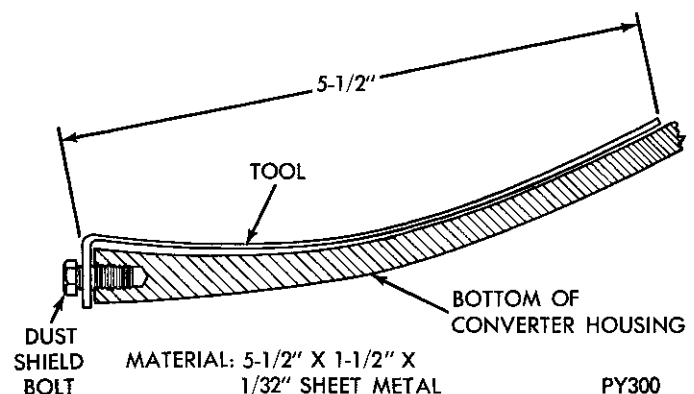
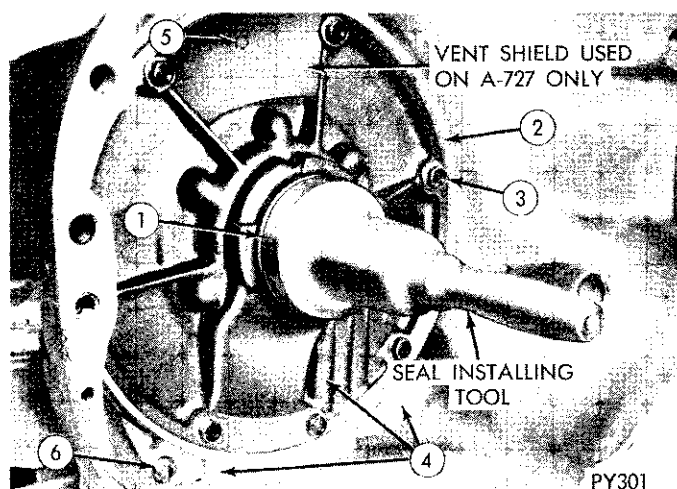

Fig. 1—Leak Locating Test Probe Tool
Fig. 2—Transmission Converter Area
(1) Remove converter housing dust shield.
(2) Position vehicle with front lower than back so that accumulated fluid in converter housing will drain out. Wipe bottom inside of converter housing as dry as possible. A solvent spray followed by compressed air drying is preferable.
(3) Fasten test probe (Fig. 1) securely to convenient dust shield bolt hole. Make certain converter is cleared by test probe. Tool must be clean and dry.
(4) Run engine at approximately 2,500 rpm with transmission in neutral, for about 2 minutes. Transmission must be at operating temperature.
(5) Stop engine and carefully remove tool.
(6) If upper surface of test probe is dry, there is no converter leak. A path of fluid across probe indicates a converter leak. Oil leaking under the probe is coming from the transmission converter area (Fig. 2).
(7) Remove transmission and torque converter assembly from vehicle for further investigation. The fluid should be drained from the transmission and converter. Re-install converter drain plug and oil pan (with new gasket) at specified torque.
Possible sources of transmission converter area fluid leakage shown in (Fig. 2) are: